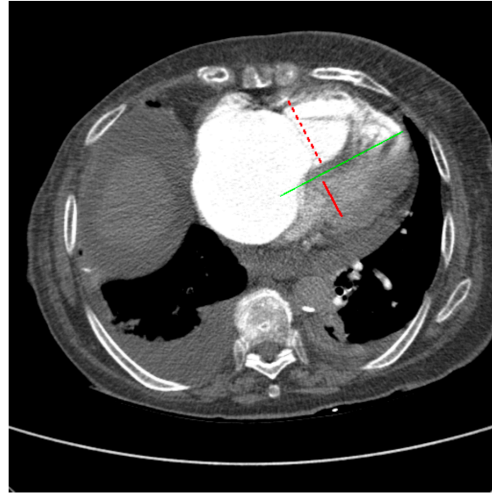

Figure 6: Poor contrast between the cavity and the myocardium can complicate the analysis.
2. Poor Image Contrast: This error can be identified by viewing the RV/LV Annotated Image Series or the Report. In Figure 6 below, there is minimal contrast between the cavity and the surrounding myocardium of the left ventricle. This is caused by a poorly timed CTPA acquisition and can impact both the automated algorithm and the visual QA process.